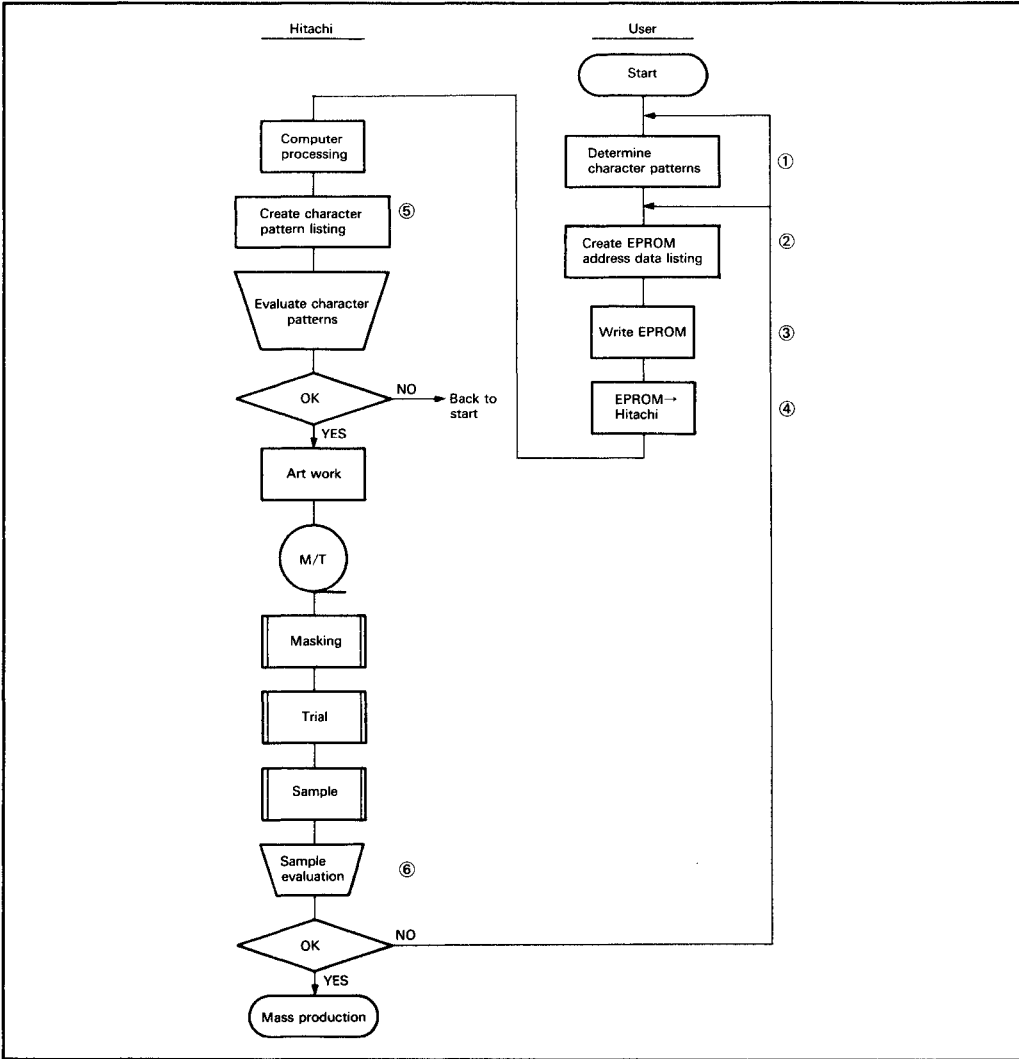

Figure 42. Character pattern development procedure
- Figure 42 shows the I/O pin configurations except for liquid crystal display output.